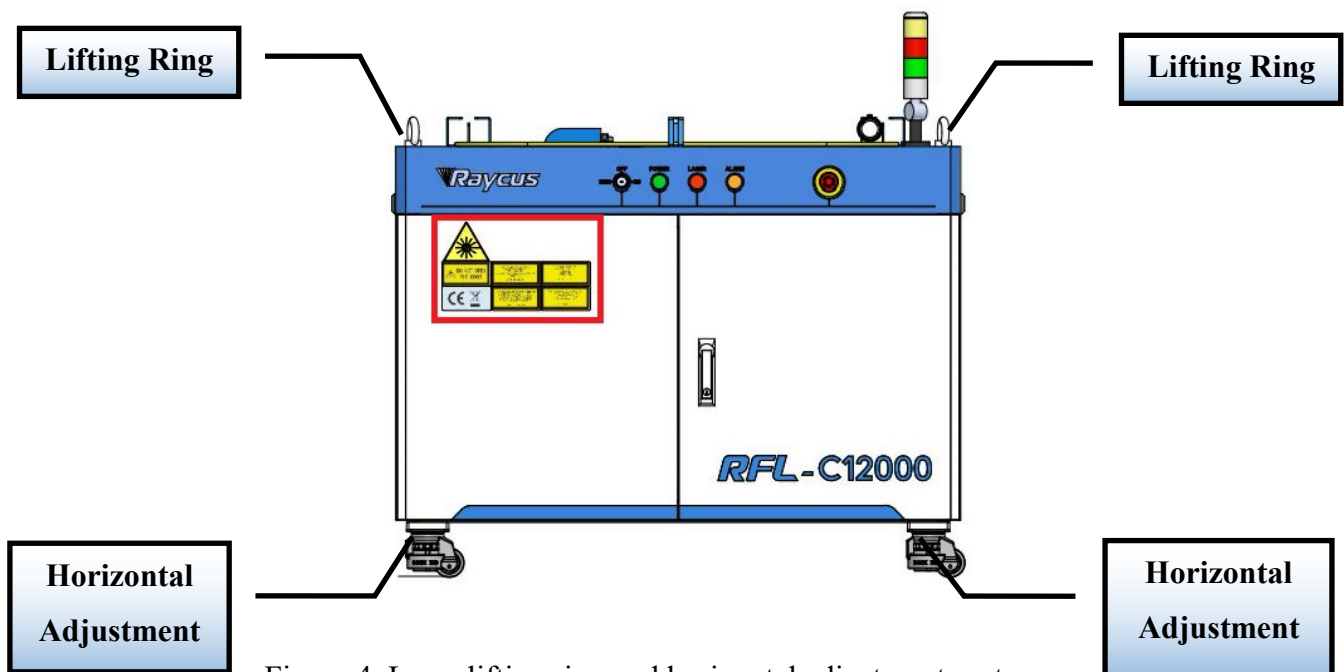

Figure 4 Laser lifting ring and horizontal adjustment caster
- i) Customers can use the four lifting rings at the top of the product or the four casters at the bottom to lift or move the product. Before lifting the laser source, make sure that the four lifting rings are installed firmly and reliably. When lifting the laser source, be sure to use the four lifting rings; when pushing the laser source, please make sure that the support block at the bottom of the horizontal adjustment caster is off the ground. After the laser source is positioned, adjust the support block to make it contact the ground to avoid displacement of the laser source. As shown in Figure 4(Take C12000TZ as an example).